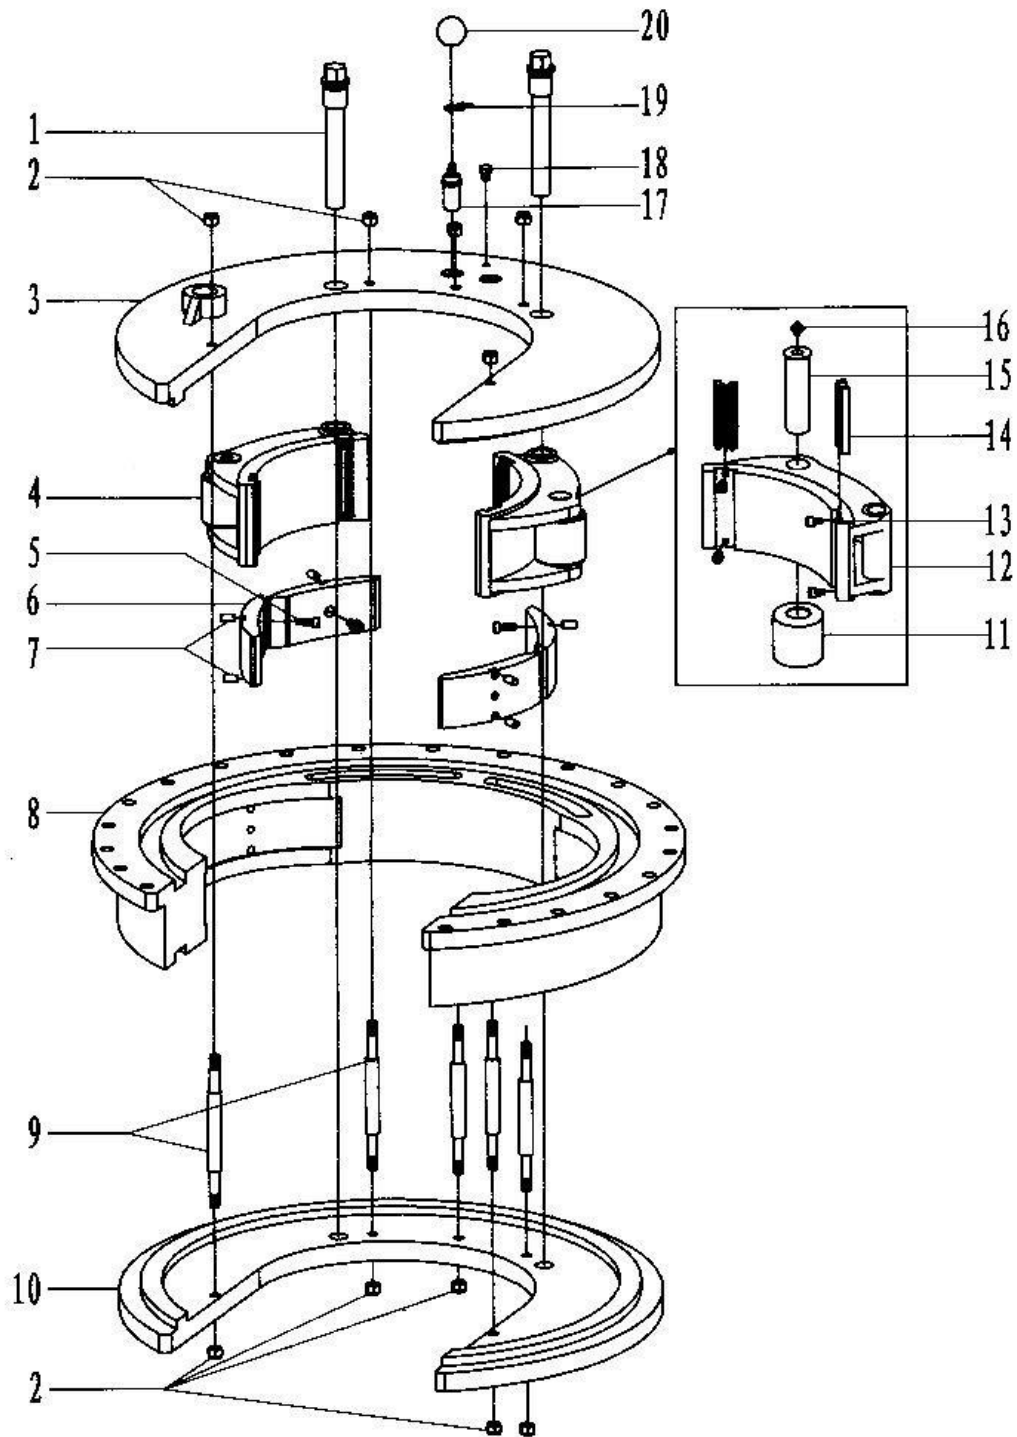

Fig 25
7.25 Backup tong head assembly (Fig 25, Table 25)